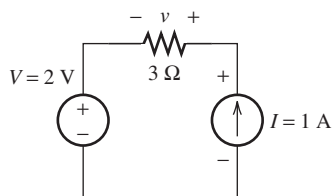

FIGURE P2.61 Circuit for Problem 2.61.
2.61 (A) In Figure P2.61, compute the voltage across the 3Ω resistor, the voltage across the current source, and the power of the current source.